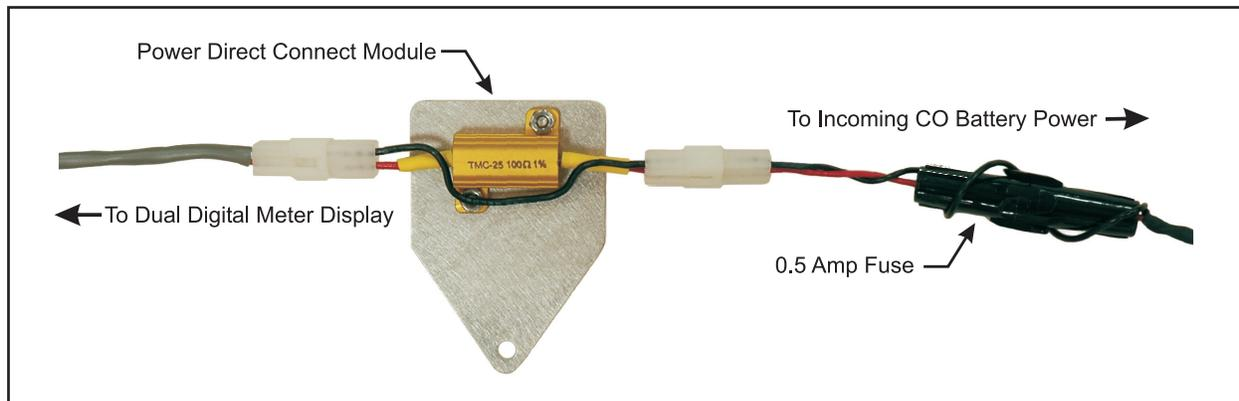

Figure 5: Power Direct Connect Module Installed in Power Cable
- 10) Uncoil the Power cable. It's the one with the darker colored sheath that contains the single conductor pair, in-line fuse, and Molex™ connectors. Pull the connectors apart and insert the connection module as shown in Figure 5.